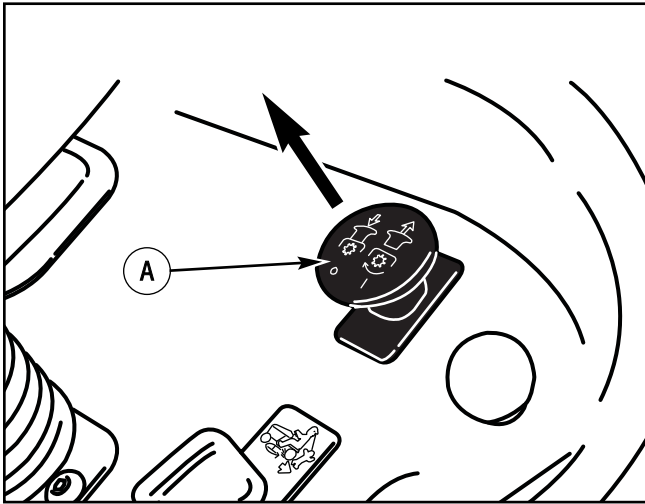

Figure 10: PTO switch
The **PTO switch** is above and to the right of the steering wheel (Figure 10). Use the **PTO switch** to engage the blades.
2. When you ride on a sidewalk or road, move the deck lift lever to the highest position and disengage the blades (Figure 10).